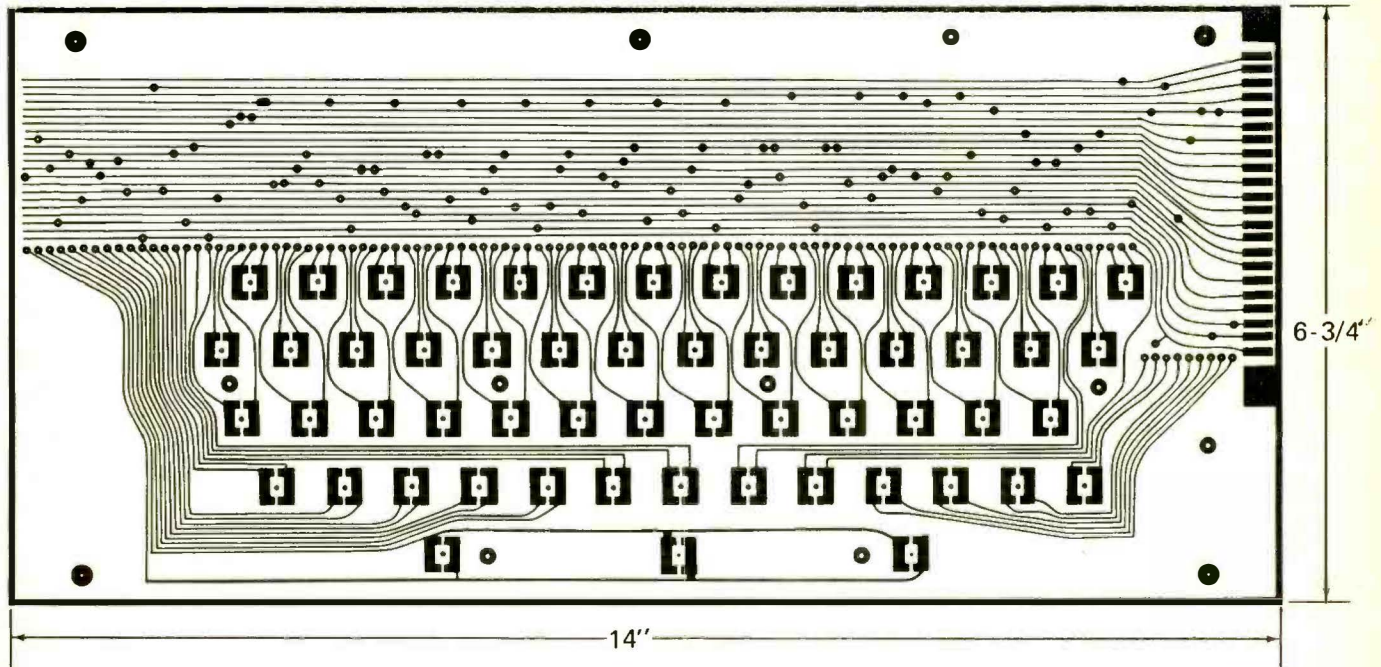

FIG. 6 (above)—PRINTED-CIRCUIT PATTERN for full 55-key typewriter or teletype keyboard. Each key has two contact pads connected to PC
The full typewriter or teletype style keyboard is shown in Fig. 6, and in the head photograph. This particular keyboard is modeled more or less after the ASR-33 teletype, the "standard" computer entry device used in
- 1 Bottom panel, per Fig. 6; 6 3/4" x 14"